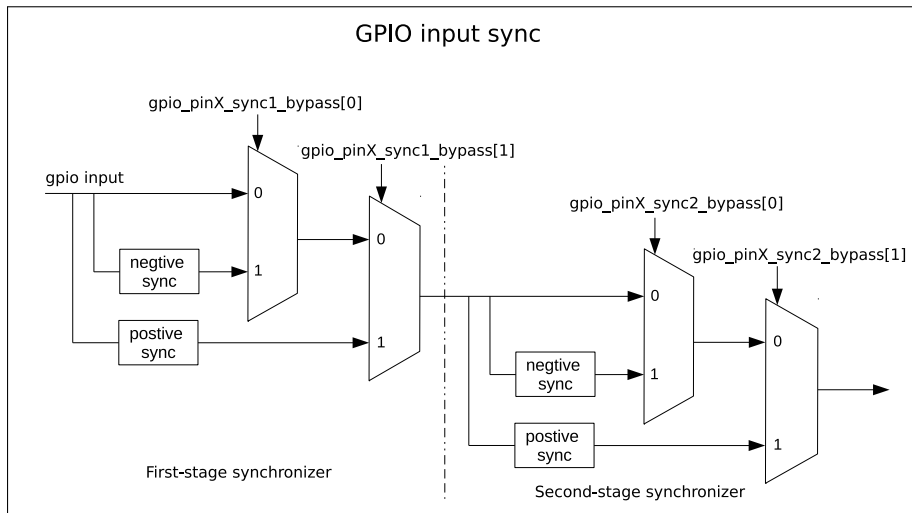

Figure 5-2. GPIO Input Synchronized on Clock Rising Edge or on Falling Edge
Figure 5-2 shows the functionality of GPIO SYNC. In the figure, negative sync and positive sync mean GPIO input is synchronized on APB clock falling edge and on APB clock rising edge, respectively.
- Set `GPIO_PIN x _SYNC1_BYPASS` to enable input signal synchronized on rising edge or on falling edge in the first clock, see Figure 5-2.
- Set `GPIO_PIN x _SYNC2_BYPASS` to enable input signal synchronized on rising edge or on falling edge in the second clock, see Figure 5-2.